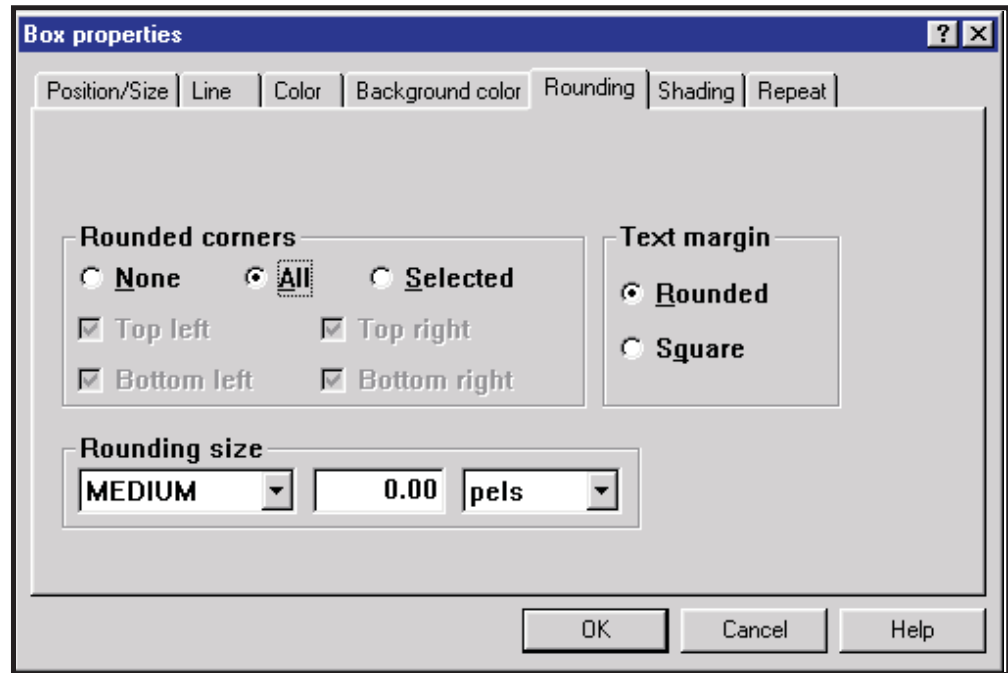

Figure 66. Box Properties Dialog - Rounding Page
3. To round the corners of the box, right-click anywhere on the border of the box. The **Box properties** dialog appears. Select the **Rounding** page, as shown in Figure 66 on page 173. Under Rounded corners, select **All** and make sure